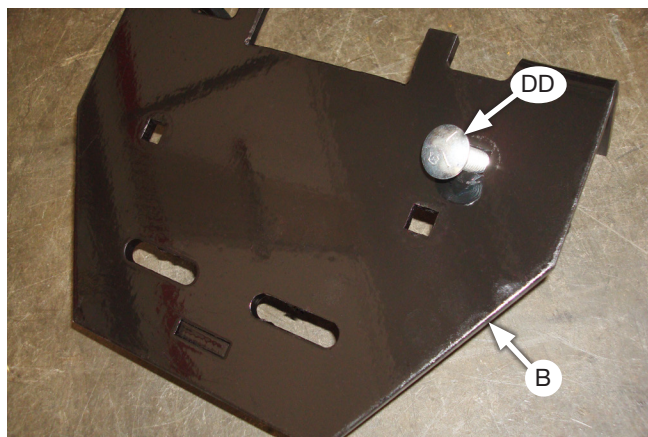
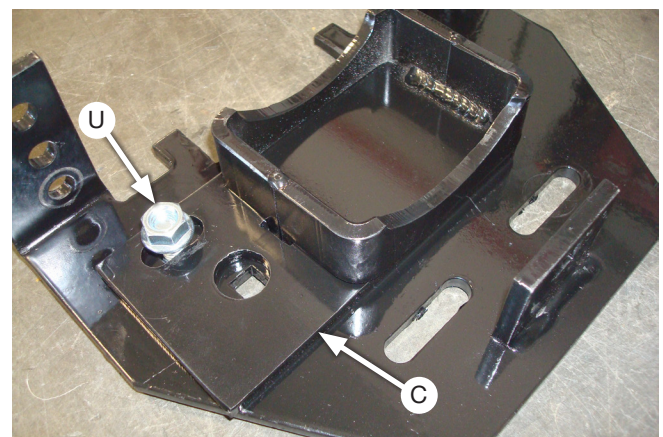

Fig. 10
Fig. 11
- Insert one (1) 3/8"-16 X 1" carriage bolt (DD) through the top of the lower bracket (B), as shown in Fig. 10. Flip the assembly over and set the lower bracket cup (C) onto the lower bracket and over the carriage bolt (Fig. 11). Cap with a 3/8"-16 serrated flange lock nut (U) and snug the nut only. Leave loose enough for the bracket to move freely in the slot.